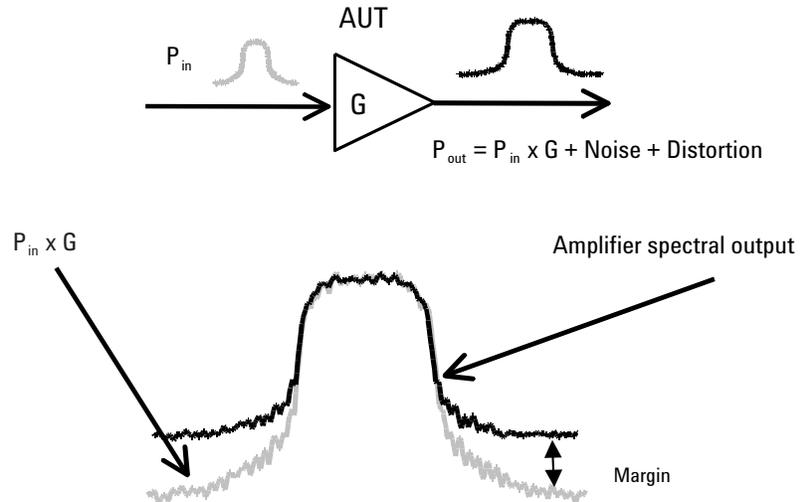

Figure 5. Test signal ACL vs amplifier ACL
As shown in Figure 5, the amplifier spectral output (P_{out}) is comprised of the input signal (P_{in}) multiplied by the gain (G) plus the amplifier's added noise and non-linear distortion. To accurately characterize or measure the amplifier's ACL or ACP, it is important to exclude the contribution of the test signal. The only way to exclude the test signal's contribution is to use a "real" input test signal that has very low ACL performance and will not contribute to the amplifiers adjacent channel spectral output.